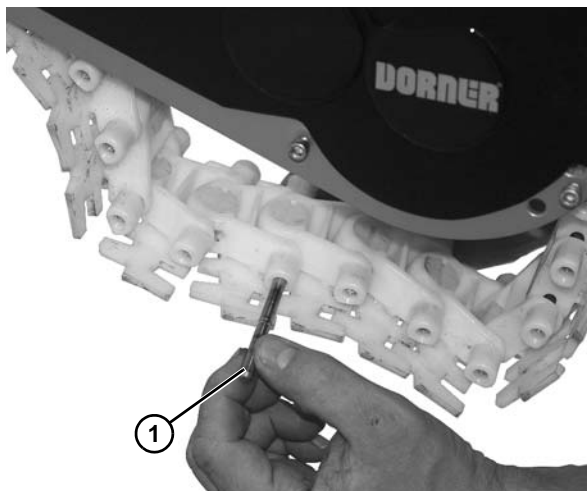

Figure 103
1. Use chain removal tool or a punch and hammer to push the chain rod (**Figure 103, item 1**) out.